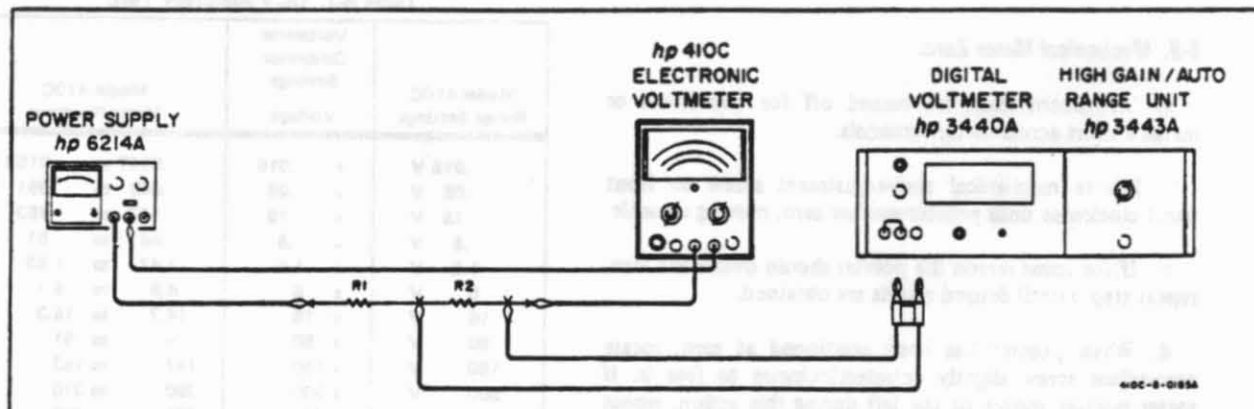

Figure 5-2. DC Ammeter Operation.
a. Figure 5-2 describes the test arrangement required for this operation.
b. Connect the Model 410C as shown in Figure 5-2; FUNCTION SELECTOR to +DCA; RANGE to 150 mA.